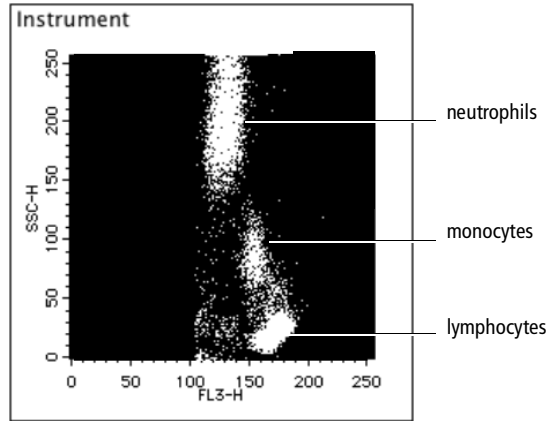

Figure 1-3 Optimized SSC and FL3 threshold settings
- 5** While viewing the FL3 vs SSC plot, adjust the side scatter PMT to optimize the position of the populations of interest, if necessary. See Figure 1-3 on page 11.